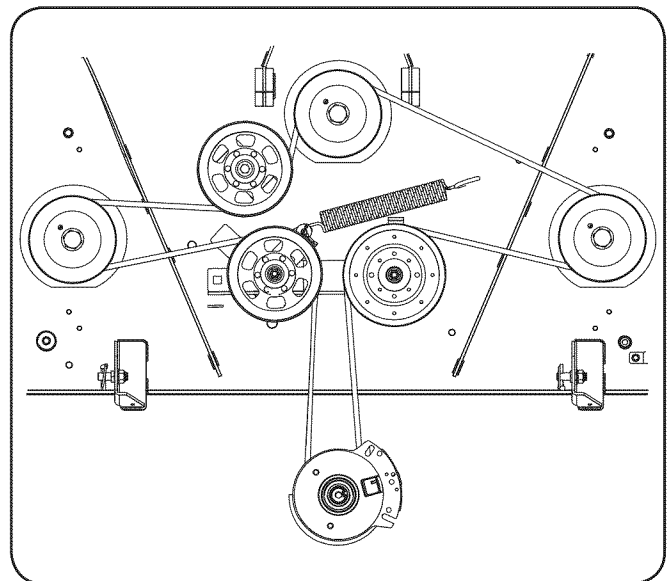

Figure 30
6. Place the belt around the idler pulleys removed in step 3 with the "V" side facing in. Once in place, reinstall all the hardware and tighten the flange lock nut to secure the assembly. See Figure 30.
7. Route the belt as shown in Figure 30 and then reinstall the deck (refer to Deck Installation).